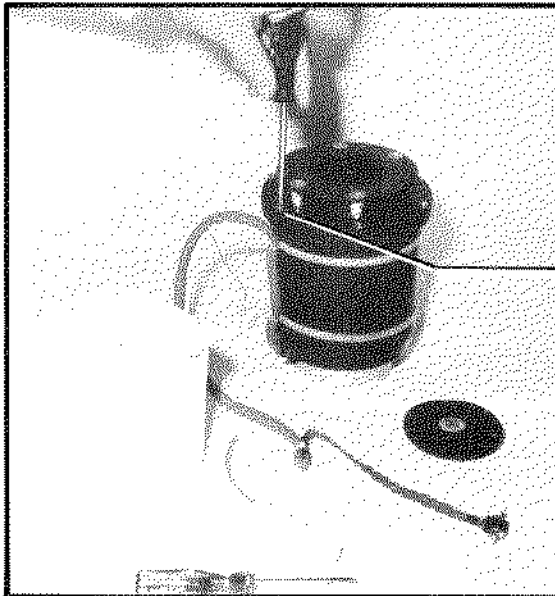

Fig. 3-13:
- Secure the outer sphere cover to the outer sphere (6 screws to be tightened crosswise, cf. Fig. 3-13).